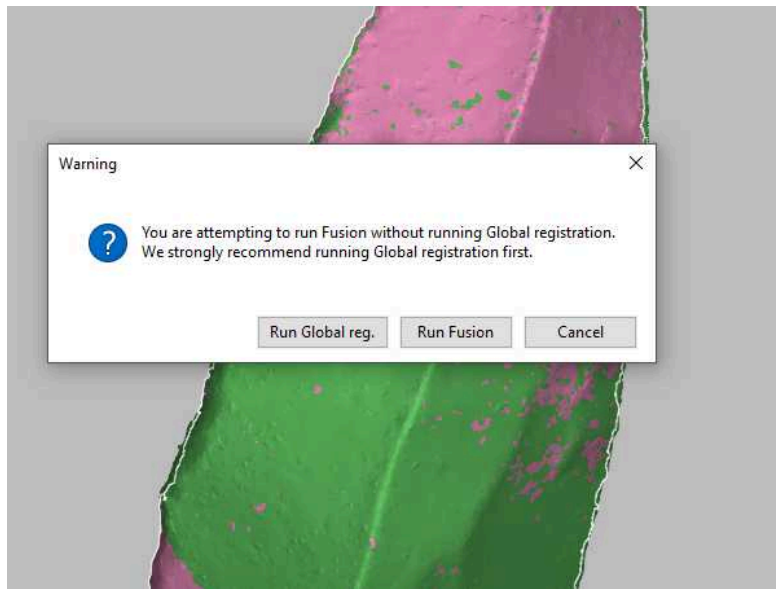

Fig. 13. The warning message that will appear when trying to run a *Sharp fusion* while having the scans locked. Simply press on *Run Fusion* to continue.
- 21 Once you click on *Apply*, a warning message will appear. Select *Run Fusion* to proceed (Fig. 13). The software will then create a 3D mesh of the aligned scans.